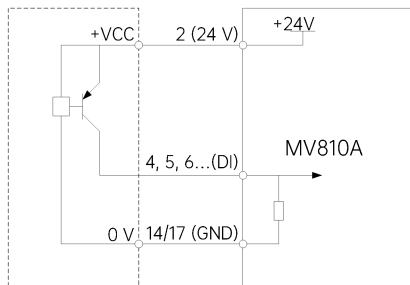

Figure 2-6 Wiring when using the internal power supply and the PNP type external controller
- ② Wiring when the internal power supply of the drive is used and the external controller adopts the PNP common emitter output, as shown in Figure 2-6.